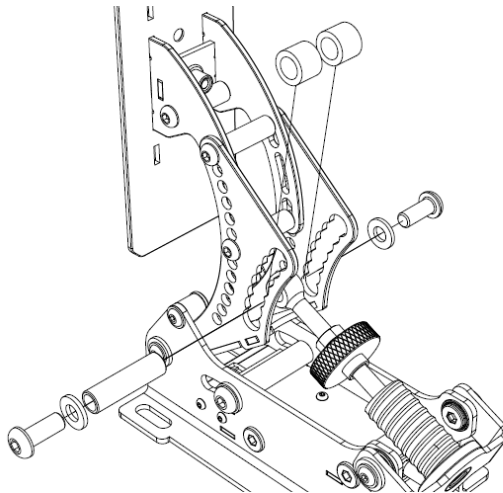

fig. 10 Changing the position of the compression spring
3. move the eyebolt securing the spring to the desired height and screw it in the correct order of elements [Fig.10];